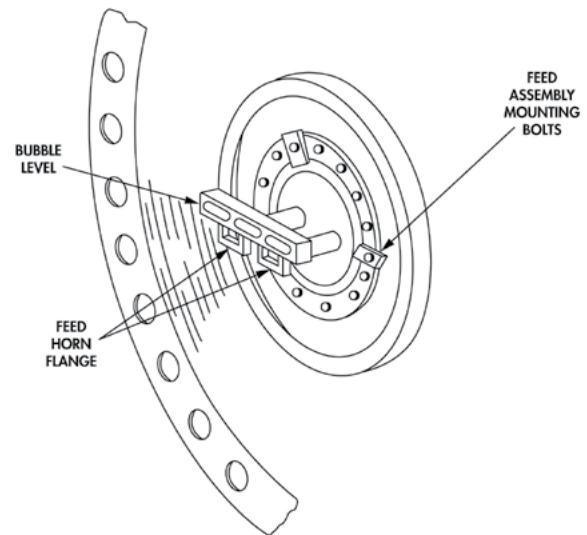

Figure 2
- 2.4.1 Loosen feed assembly mounting bolts. Place bubble level across feed horn in back of antenna to measure horizontal level (see Figure 2). Rotate feed assembly until horizontally level. Tighten feed assembly mounting bolts.